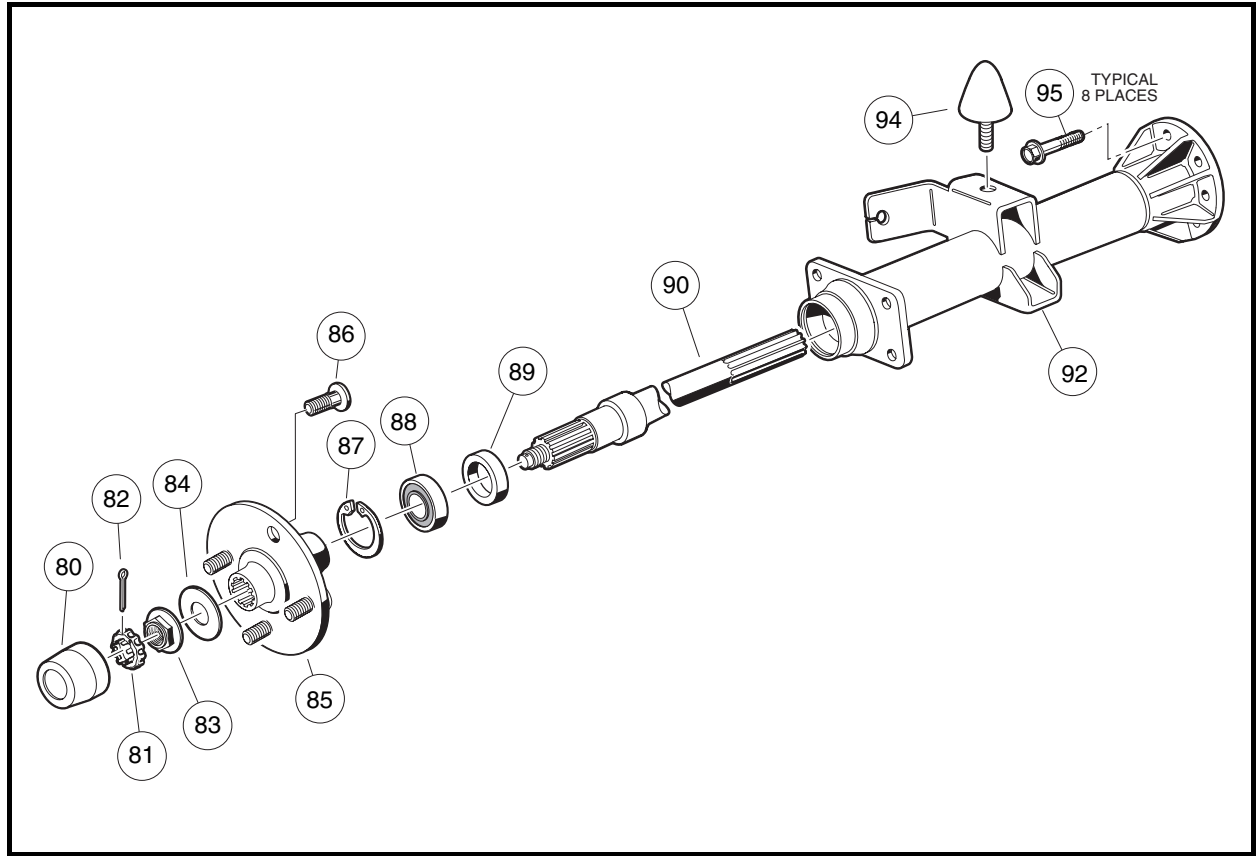

Figure 16-8 Differential Axle and Wheel Hub Assembly
9. Inspect the bearing. Remove and replace if damaged or worn (**Figure 16-8, Page 16-6**).
1. Replace the old oil seal with a new seal (89). Make sure the axle tube hub is free of debris.
2. Replace the old bearing with a new bearing (88). Slip the new bearing onto the machined journal, adjacent to the machined seal hub on the end of the axle (**Figure 16-8, Page 16-6**).
4. Use a 90° internal snap ring pliers and insert the internal retaining ring (87) into the groove in the axle tube hub, adjacent to the outside surface of the bearing. **See following WARNING.**